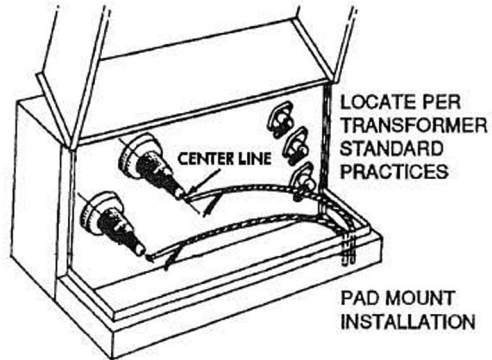

Fig. 1 - Train Cables
- A. Train the cable into the final assembled position per transformer standard practices. Allow sufficient slack in the cable to pull the elbow connector at least one foot away from, and in line with, the center line of the mating part during loadbreak operation. See Figure 1.